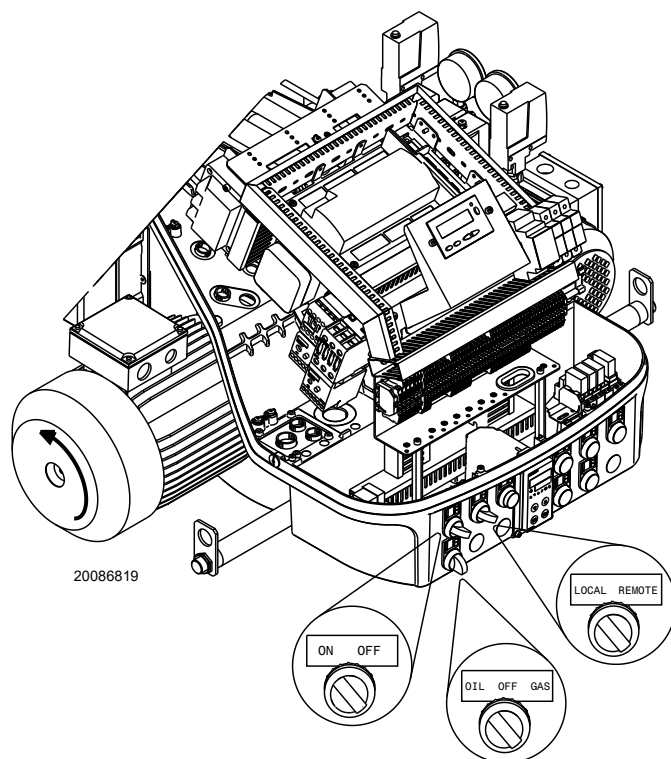

Fig. 39
Turn the switch to position “ON” (Fig. 39) and turn the switch of to position “LOCAL” and turn the switch to position “OIL” for oil operation and “GAS” for gas operation.
When the burner starts, check the direction of the motor rotation, as indicated in Fig. 39. As soon as the burner starts up, look at the cooling fan of the fan motor and check it is rotating anticlockwise.
- place the switch of Fig. 39 in position “OFF” and wait for the control box to carry out the switch-off phase;